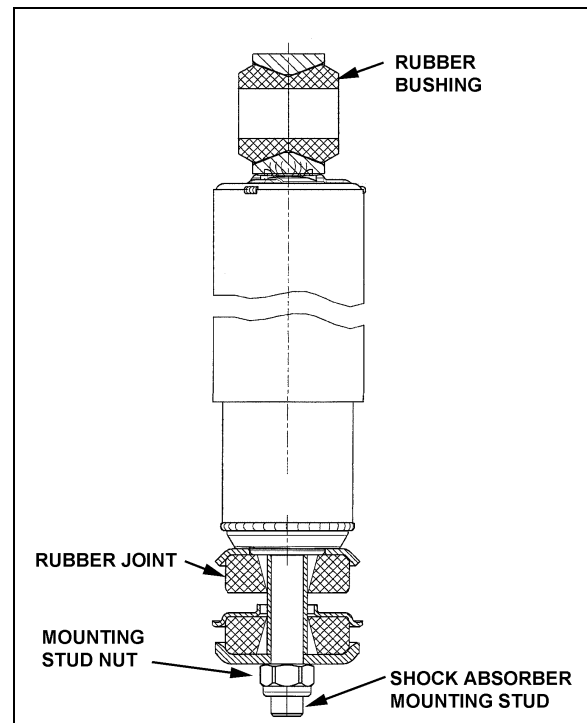

FIGURE 34: SHOCK ABSORBER
5. Install the shock absorber as shown in Figure 34 with the mounting stud protruding through the hole in the mounting bracket and the shock absorber eyes over the mounting pins. Install the outer washer.